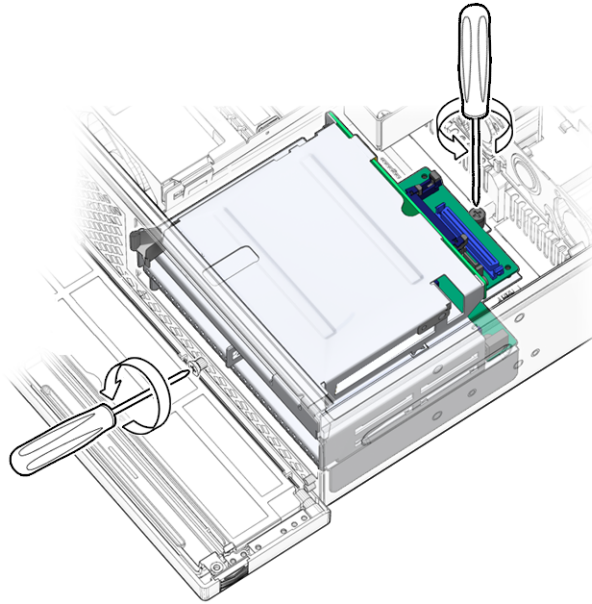

FIGURE 3-26 Loosening the Mass Storage Assembly Screws
5. Loosen both the screw at the back of the mass storage assembly and the screw at the front of the chassis (FIGURE 3-26).